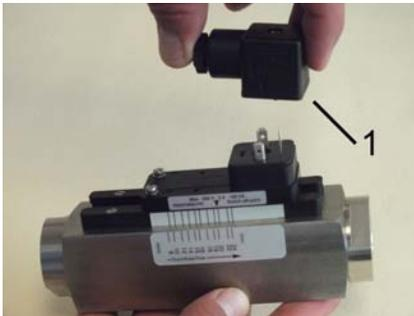

Fig. 52: Remove female socket
2. ➤ Remove the female socket and gasket (Fig. 52/1) by pulling upwards